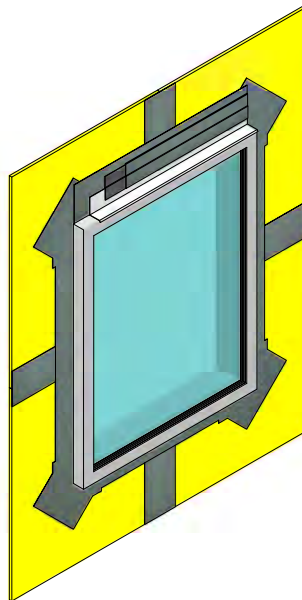

Figure 16
12. Install required accessories such as window head flashing. Apply SENERSHIELD-R or SENERSHIELD-VB over the accessory and onto areas which will receive SHEATHING FABRIC. Cut SHEATHING FABRIC to desired size. Apply additional SENERSHIELD-R or SENERSHIELD-VB onto the SHEATHING FABRIC to embed. If necessary, apply a second coat. (See Figure 16)